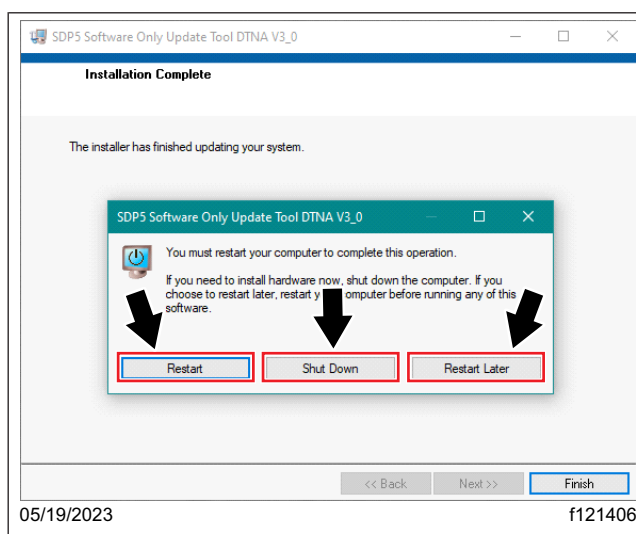

Fig. 13, Restarting the Computer
15. Select 'Restart' or 'Shut Down' to complete the installation process. See Fig. 13.